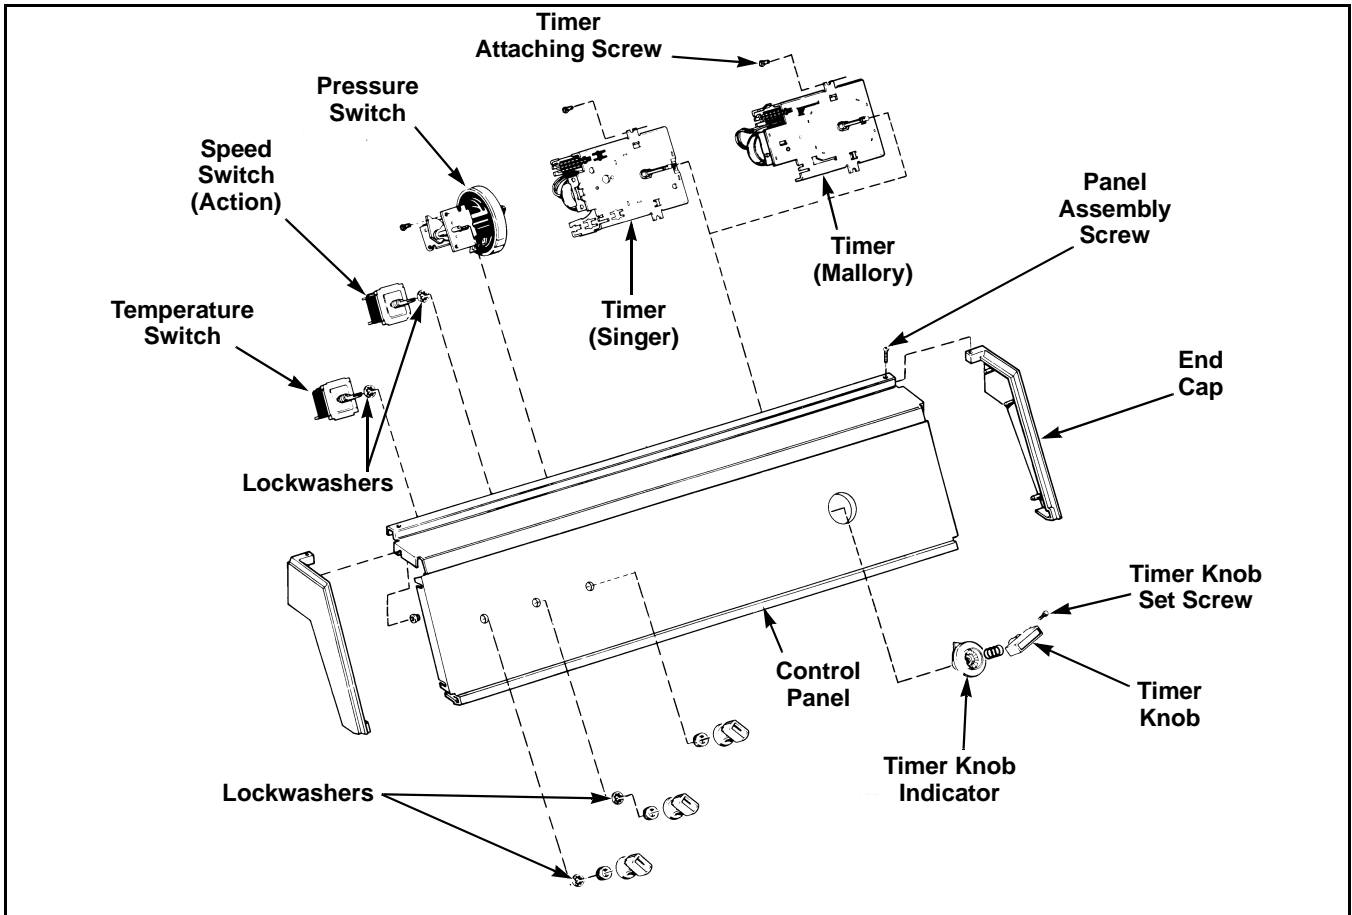

Figure 8
Refer to *Figure 8*.
**NOTE:** When installing timers, shown in *Figure 8*, the horizontal and vertical tabs on front plate of timer must seat completely into the “cross shaped” holes on the control panel bracket, *Figure 8*, and that the two timer hex head attaching screws are torqued down between 12 and 18 inch pounds (14 to 21 cm-kg).
**NOTE: When installing timer, be sure timer is installed correctly and is securely mounted to bracket on control hood. Refer to *Figure 8*.**